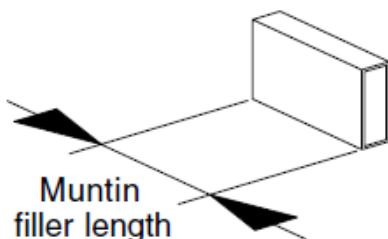

Figure 2-3
2.3. Calculate muntin filler length (Figure 2-3) using formula from Muntin Filler Length table and cut muntin filler to length.